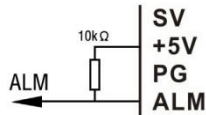

Figure 4 : ALM alarm signal and digital signal connection
2)ALM alarm signal output digital signal connection as shown in Figure 4: